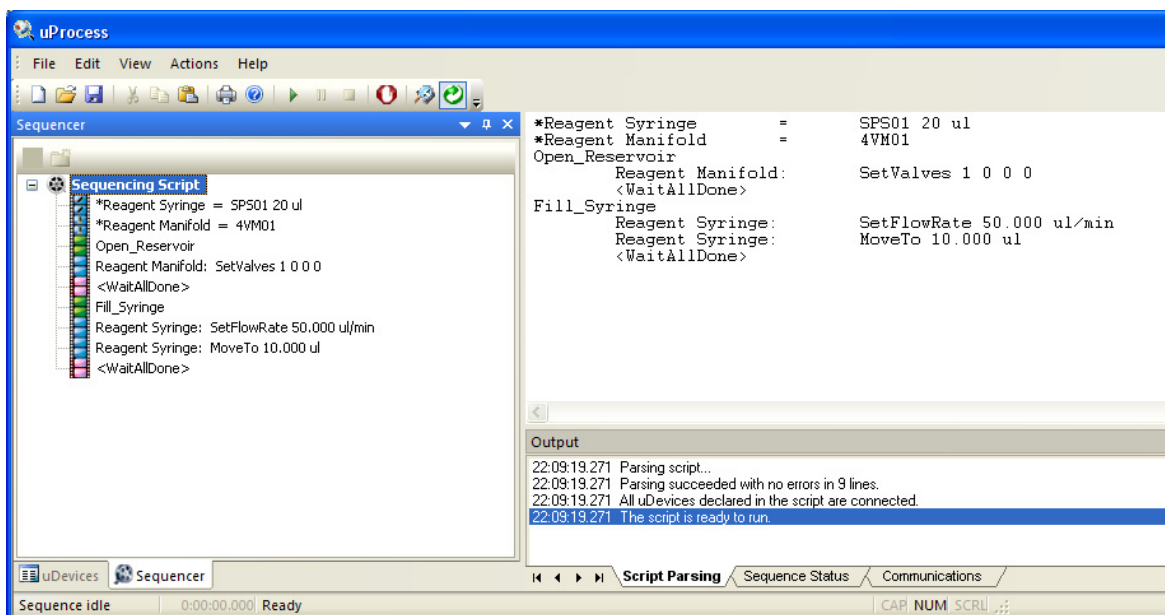

Figure 30. Step 1 Shown in the Sequence Tab and Main Window.
13. Click **OK** to add this step to the script. To view the process thus far, click the **Sequencer Window** tab then click on any step in the sequencing script (*Figure 30*). Select **Interfaces** in the **uDevices Window** to return to the **Device Control Overview Window** and continue building the script.